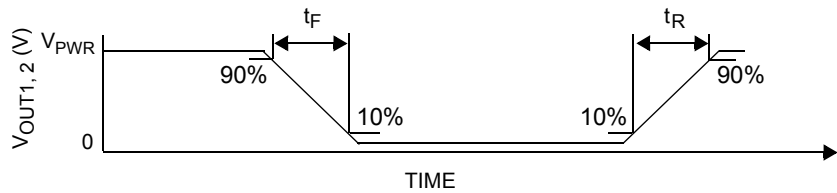

Figure 6. Output switching time
27. Rise Time is from the 10% to the 90% level and Fall Time is from the 90% to the 10% level of the output signal with $V_{\text{PWR}} = 24\text{ V}$, $R_{\text{LOAD}} = 3.0\text{ ohm}$. See Figure 6, page 10.